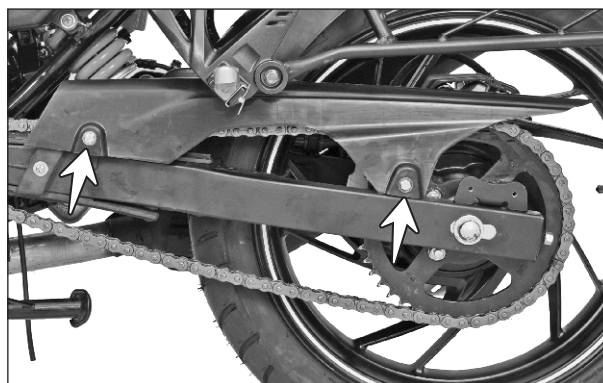

Fig. 2.97
- Remove the hexagonal bolts (M6x12 - 2 nos.) along with the washers from the chain guard. (Fig. 2.97)